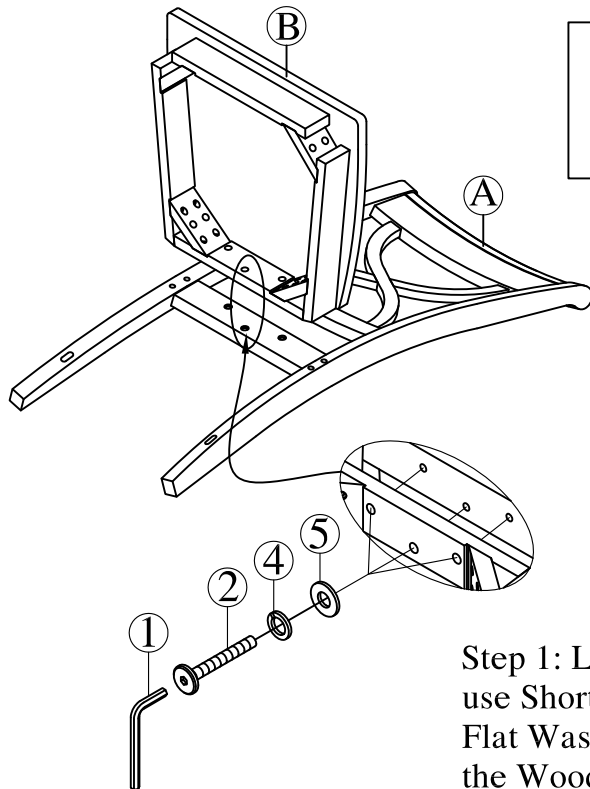

Fig.1
Step 1: Lay the Backrest (A) on a flat soft surface, use Short Bolt (2), Spring Washer (4), Flat Washer (5) and Allen Key (1) to attached the Wooden Seat (B) to Backrest (A) as shown in Fig. 1.